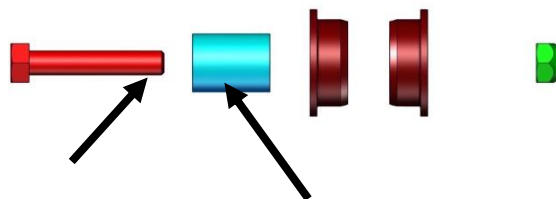

Figure 206
14. In order to retain the control, arm the 5/16" bolt should be torqued to 22 ft. lbs. (30 Nm) The head and nut of the bolt should be secured on the spacer that goes through the bushing. Figure 206. This will make sure that the arm turns on the bushing and not the nut or head of the bolt.